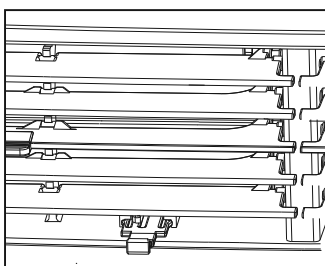

Figure 1 ( VENT CLOSED )
1. Pushed In (Fig. 1) – Recirculates inside air